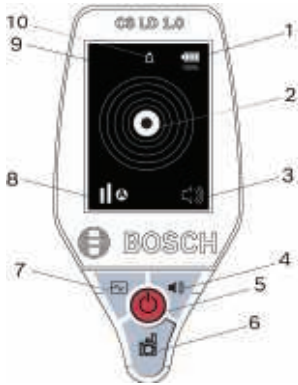

Fig 1.1: HMI View of CS LD 1.0
The unit will default to the Medium sensitivity level and Automatic mode (indicated as shown in item 8, Fig. 1.1 ) once the unit completes the warm up cycle. To change sensitivity levels, press the Sensitivity button (item 6, Fig. 1.1) once for High sensitivity (three bars) and again for Low sensitivity (one bar). Pressing a third time returns the sensitivity level to Medium.
To enter the Leak Tracing Mode, press the Graph button Item 7, Fig 1.1. This mode allows the user to pinpoint hard to find small leaks. The display "cursor" will move from left to right tracking the sensor output. The graph's horizontal axis (x-axis) represents a timeline from 0 to 8 seconds; the vertical axis (y-axis) indicates signal change intensity.